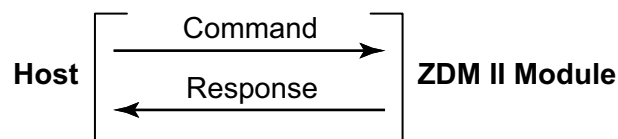

Figure 5. Read Command Structure
- When a Read command is received, the Module returns the applicable value, as described in the Serial Commands chapter on page 15. See the example in Figure 5.